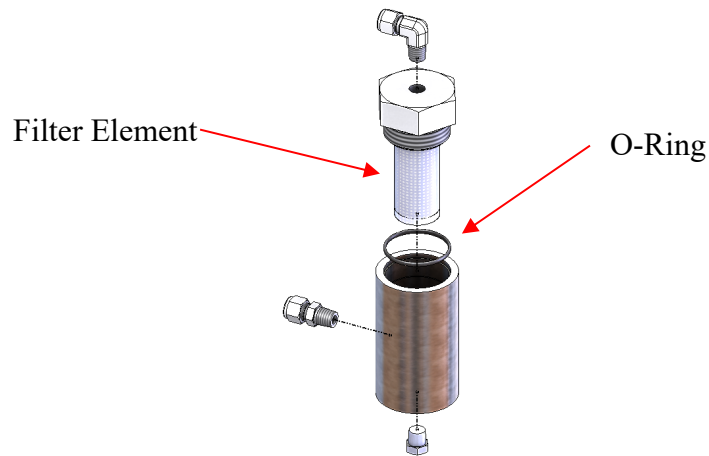

Figure 35: Auxiliary Filter Exploded Assembly
- e) Remove the o-ring on the cap that is located just above the threads. The filter element should be connected to the cap. See Figure 35.